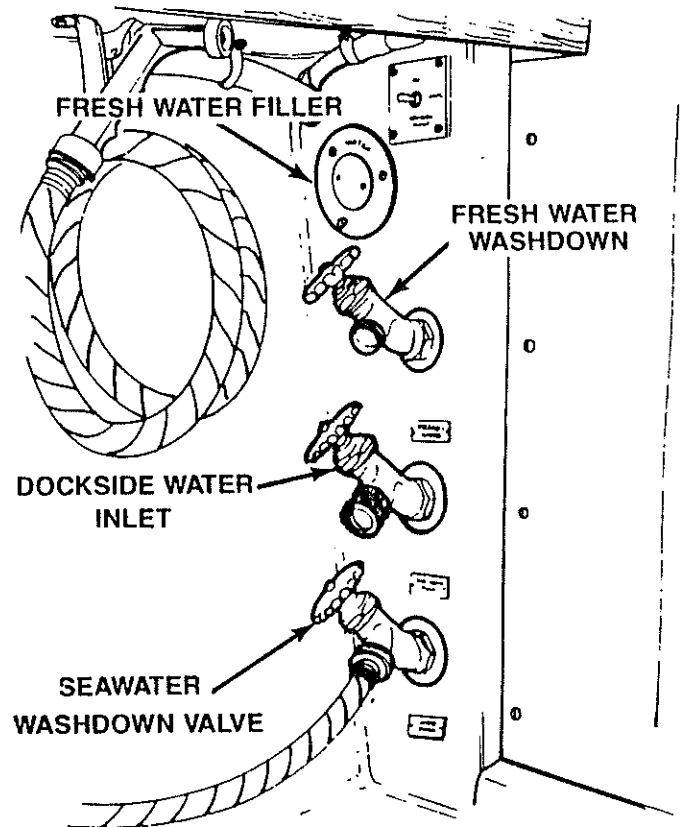

Figure 3-21 Dockside Water Inlet
1. See Figure 3-21. Connect a garden hose to the dockside water inlet located on the forward, port side of the cockpit.